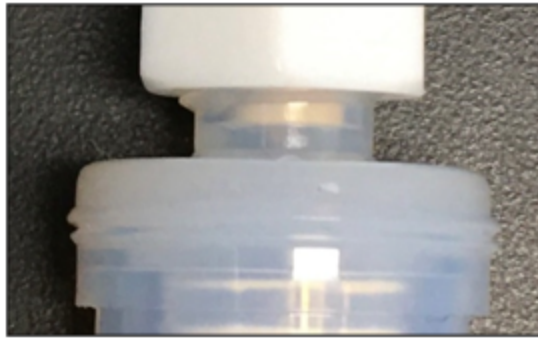

Figure 62 - Tightening the Filter Fittings
11. Tighten the nut on the fitting until the final bit of thread is just showing past the nut (Figure 62).